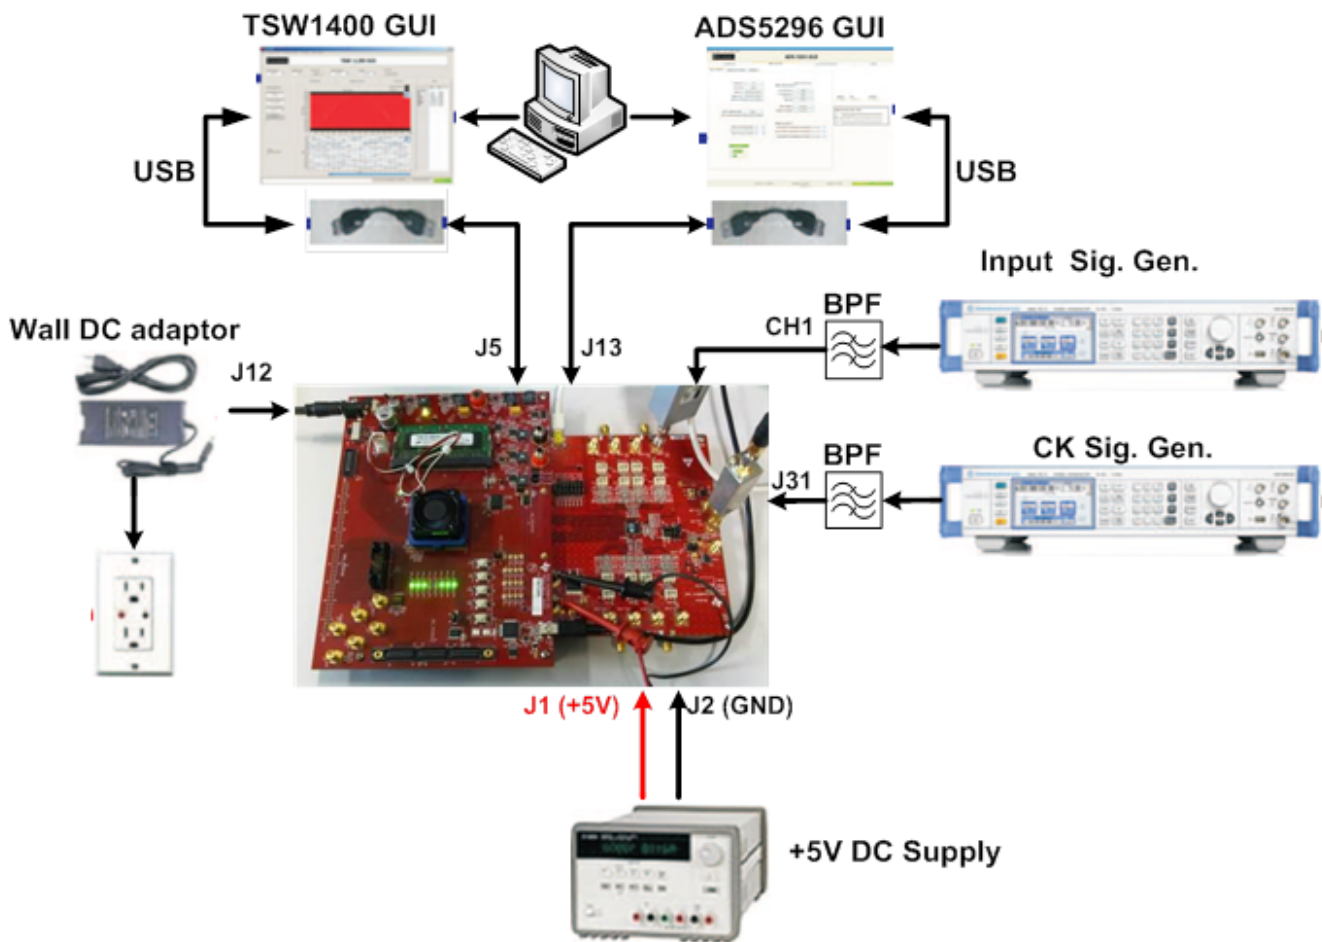

Figure 1. Evaluation Setup
Figure 1 is an overview of the evaluation setup that includes the ADS5296 EVM, TSW1400 data capturing card, external equipment, personal computer (PC), and software requirements.
Equipment: Signal generators (with low-phase noise) must be used as source of input signal and clock in order to get the desired performance. Additionally, band-pass filters (BPF) are required in signal and clock paths to attenuate the harmonics and noise from the generators. (**Note: Functionality of the setup shown in Figure 1, including the LVDS interface between the ADS5296 and FPGA on the capture card, can be tested using the on-chip test pattern generator and the on-board crystal oscillator for an ADC sampling clock source.**)